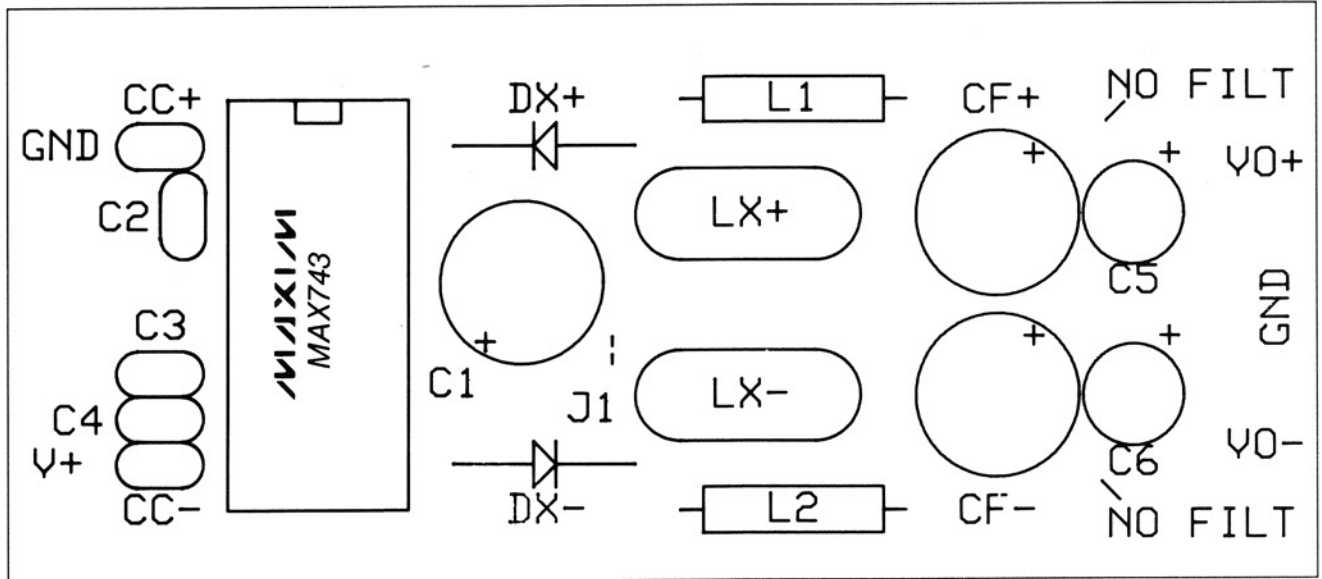

Figure 7. Component Placement Diagram for PC Layout of Figure 6
1. Build Circuit. Assemble the PC board according to the component placement diagram of Figure 7 and the schematic of Figure 4. 3 resistors will be left over (and used for testing). The extra holes near LX and CF are options for nonstandard component sizes. Do not install jumper, J1, or C4.